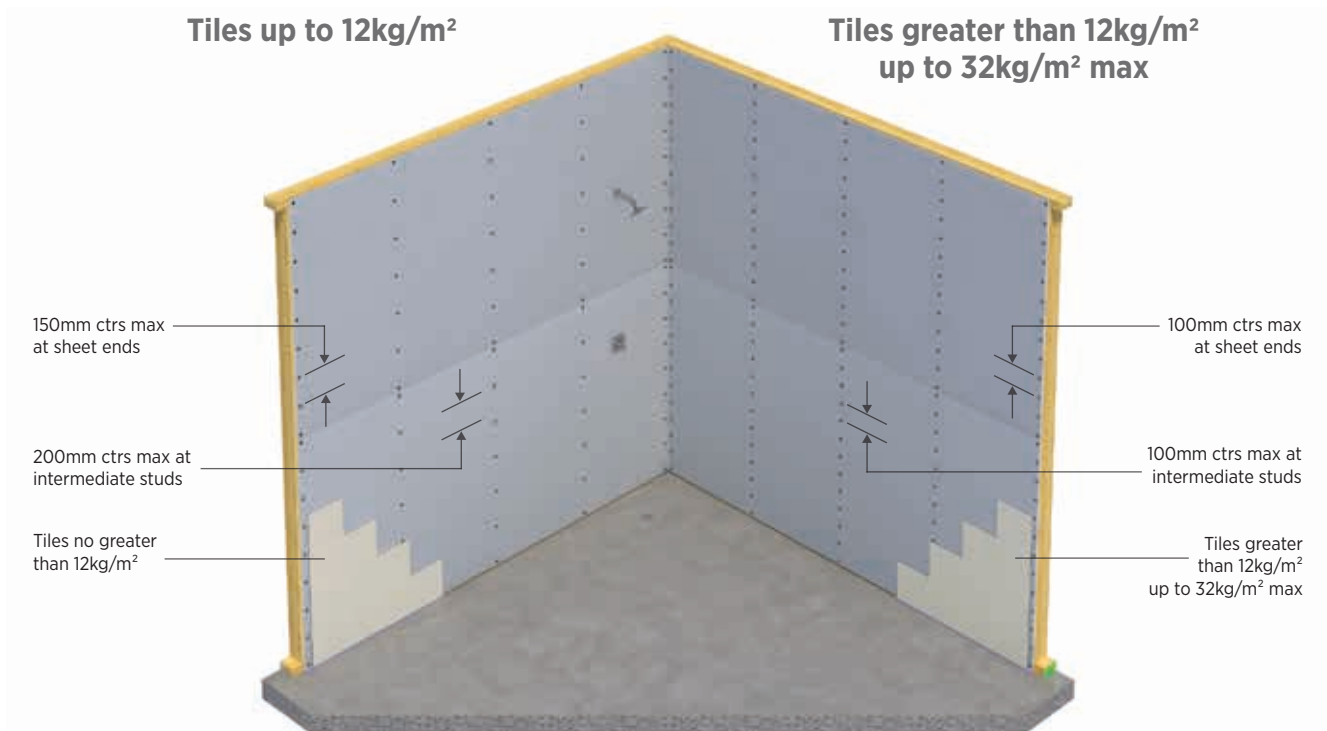

Figure 52: Plasterboard Fixing in Tiled Areas
- Space fasteners as per Table 26 and Figure 52.